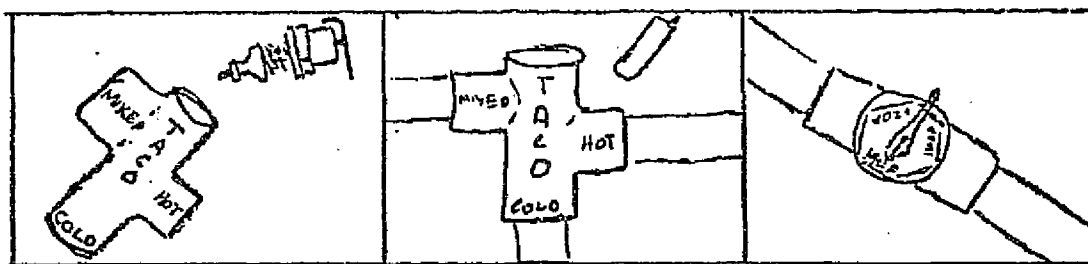

Figure 4: Tempering Valve
2.4.7 The tempering valve (see Figure 4) should be located in a convenient place at least six inches below the tank top (to prevent thermal syphoning and reduction of the valve life.) Note: Before soldering the tempering valve, remove the valve insert from the body, making sure not to lose the metal washer.